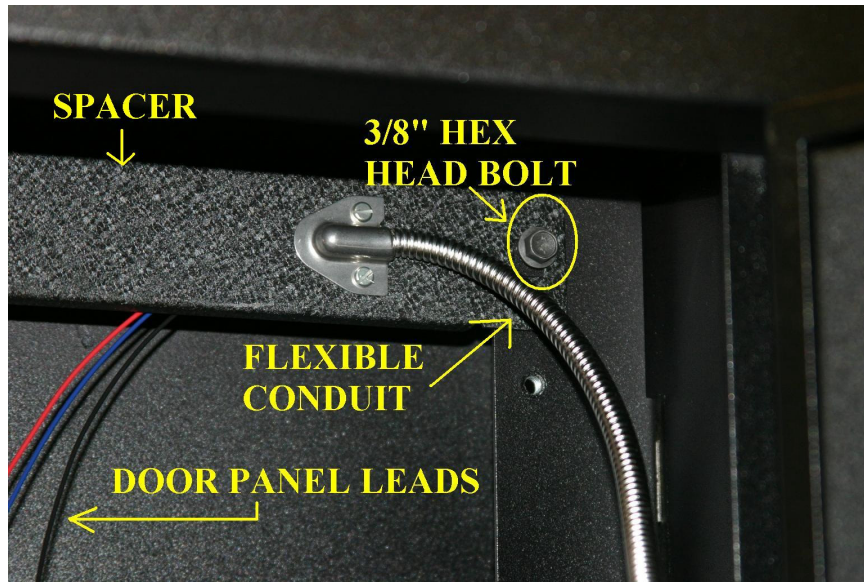

Fig. 35
3. remove the 3/8" hex head bolts (2) from the spacer at the top of the cabinet. The door panel, the spacer, the flexible conduit and the door panel leads all stay together. **(Fig. 35)**
4. with one person supporting the panel remove the corner screws (4) and lift the panel with spacer, flex conduit and leads away from the door.